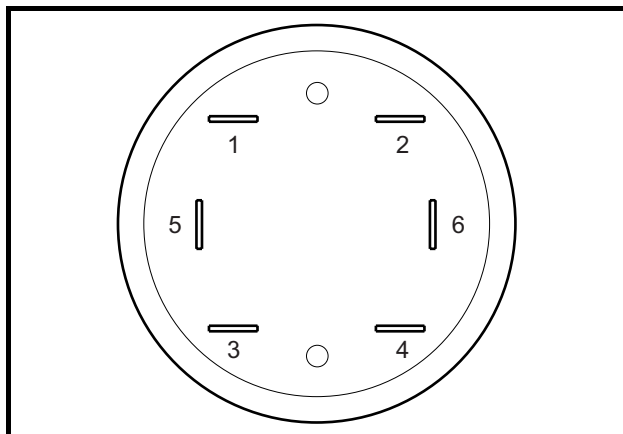
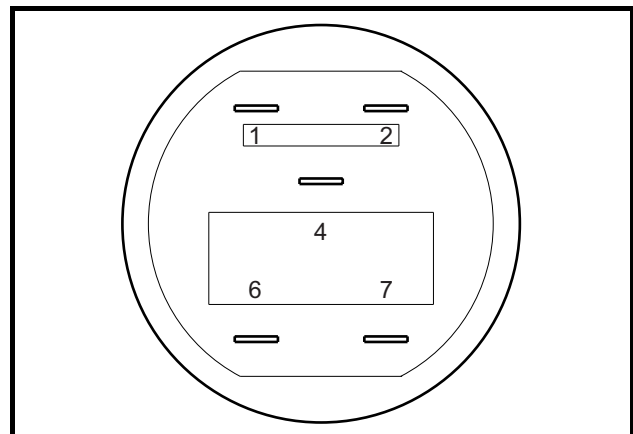

Figure 11-35 Fuel Gauge/Hour Meter – Through mid-2007
Figure 11-36 Fuel Gauge/Hour Meter – From mid-2007
Two fuel gauges were used for model year 2007 (Figure 11-35, Page 11-33 and Figure 11-36, Page 11-33). The terminal configuration on the back of the gauge easily denotes the type. Follow the appropriate procedure. The gauge used through mid-2007 has the orange wire connected to terminal 1 whereas the gauge used from mid-2007 has it connected to terminal 4 in the center of the gauge. In addition, the gauge used through mid-2007 has one terminal (3) to ground it whereas the gauge used from mid-2007 has two ground terminals (1 and 6) with a black jumper wire connecting them. **See following NOTE.**
Two hour meters were used for model year 2007 (**Figure 11-35, Page 11-33 and Figure 11-36, Page 11-33**). The display and the terminal configuration on the back of the meter easily denotes the type. Follow the appropriate procedure. The display on the meter used through mid-2007 only appears when the key switch is ON whereas the display on the meter used from mid-2007 is always on. The meter used through mid-2007 has the orange wire connected to terminal 1 whereas the meter used from mid-2007 has it connected to terminal 4 in the center of the meter. In addition, the meter used through mid-2007 has one terminal (3) to ground it whereas the meter used from mid-2007 has two ground terminals (1 and 6) with a black jumper wire connecting them. **See following NOTE.**